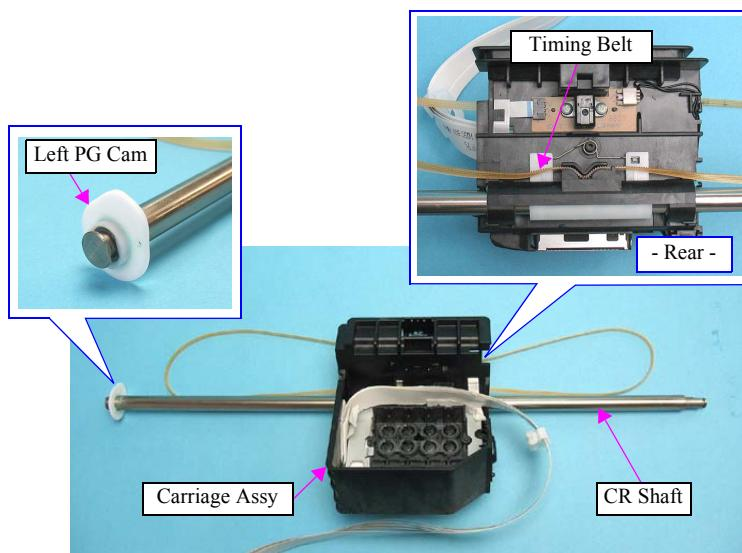

Figure 4-138. Removing the Carriage Assy (4)
- When installing the Left PG Cam, install it in the orientation shown in Figure 4-138.